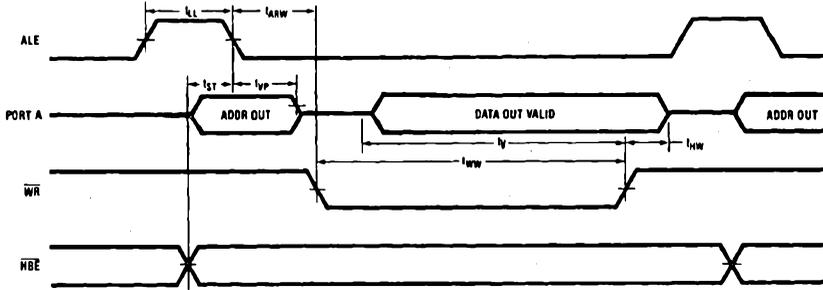

FIGURE 2. CPU and DMA Write Cycles
**CPU Write Cycle Timing** (See Figure 2)
**DMA Write Cycle Timing**  $f_C = 20$  MHz (See Figure 2)